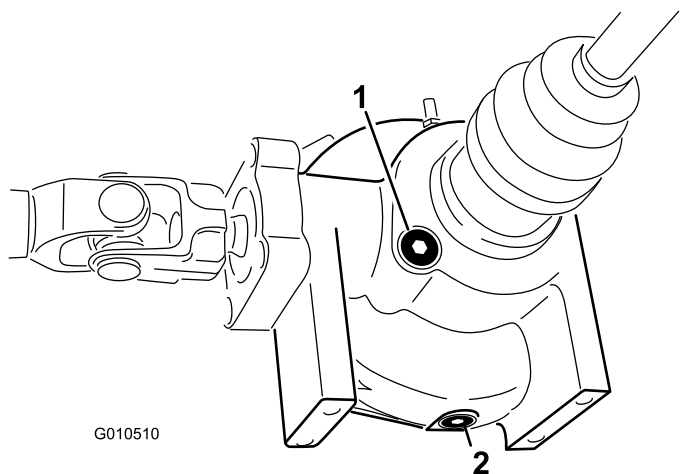

Figure 22
2. Clean the area around the fill/check plug on side of the differential (Figure 22).